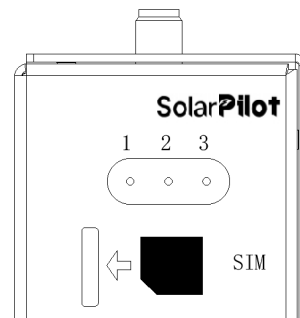

Figure 2.3-1 Schematic diagram of SIM card notch direction
- Traffic card socket: SP4-WiSUN-GW-G model is selected to support 4G data upload. Both 4G cards and IoT cards can be used, pay attention to the direction of the notch when inserting, and the direction of the SIM card notch is shown in Figure 2.3-1.